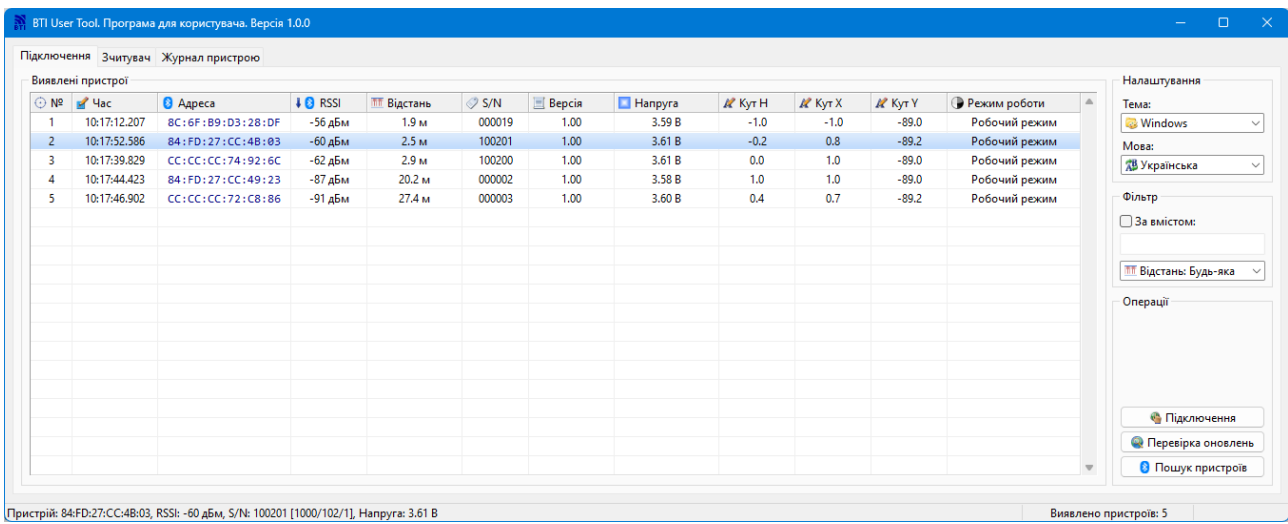

Figure A.2 – Sensor with serial number 100201 is selected.
To view the current data that is being broadcast, simply activate the search for BLE devices and in the list of detected devices, find the desired Sensor and view its value (see Fig. A.2).
To connect to the Sensor, you must stop the search using the "Stop Search" button, select the Sensor from the list of detected devices, and click the "Connect" button (or double-click with the mouse) (see Fig. A.2).
- "Voltage" – battery voltage measured by the Sensor. In mode connection, consumption increases by 7-10 times and, accordingly, there is a slight decrease in the battery voltage compared to the values in the "Beacon" mode (see Fig. A.2, "Voltage" column);